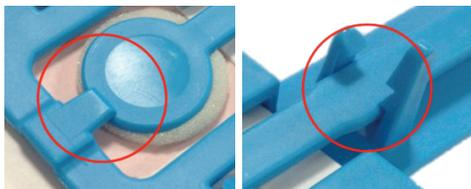

Figure 6
- Ensure the device is held in the sample transfer position for the full 10 seconds (Figure 6). Check that both the foam head is underneath the head tab and that the lower stem locking positions are used when the device is in the transfer position. This ensures a consistent amount of pressure is applied across the sampling area.